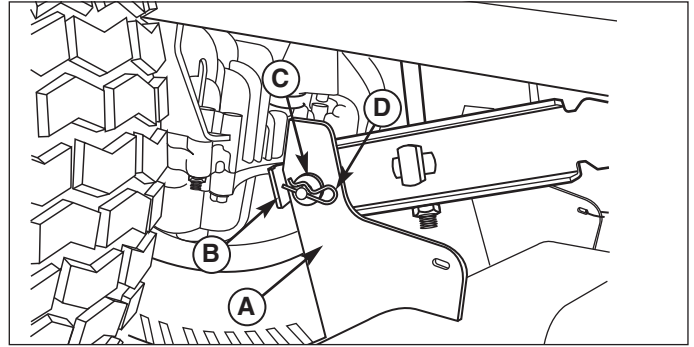
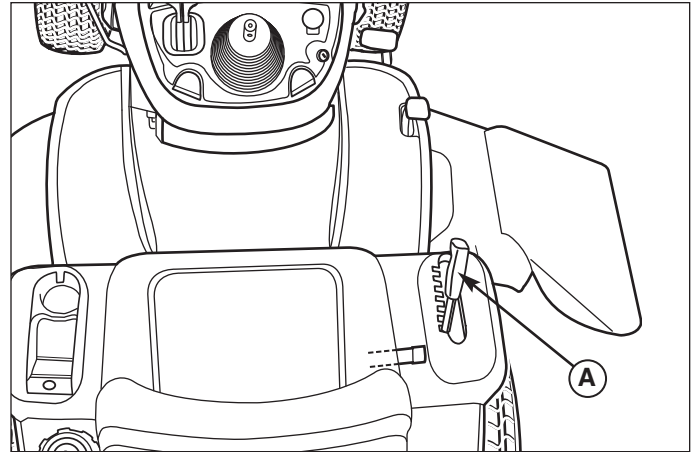

Figure 4. Lift Arms
Figure 7. Raising & Lowering Mower
4. Remove hair pin (D, Figure 4) and washer (C). Disconnect the mower lift plates (A) from the tractor lift arms (B). Reinstall washers (C) and hair pins (D) to prevent loss.
2. Place mower height adjuster (B, Figure 7) in the lowest cutting position. Place the mower lift lever in the lowest position. Slide mower deck under right side of tractor so that mower hitch is aligned with the front tractor hitch.
3. Turn wheels straight. Lift the mower hanger (C). Insert rod (B) through mower hanger (C) and tractor brackets (D). Secure with safety clip (A).
4. Re-install hair pins (D, Figure 4) and washers (C) into the mower lift plates (A) and the tractor lift arms (B).
The cutting height lift lever (A, Figure 7) controls the mower cutting height. The cutting height is has seven positions between approximately 1-1/4" and 4" (3,2-10 cm).